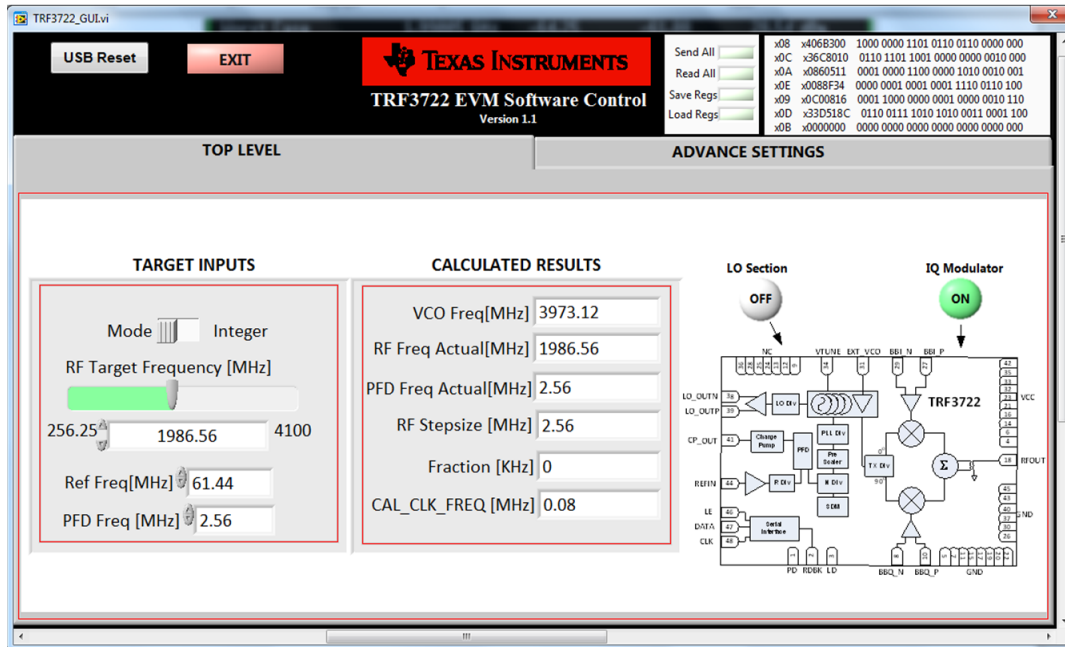
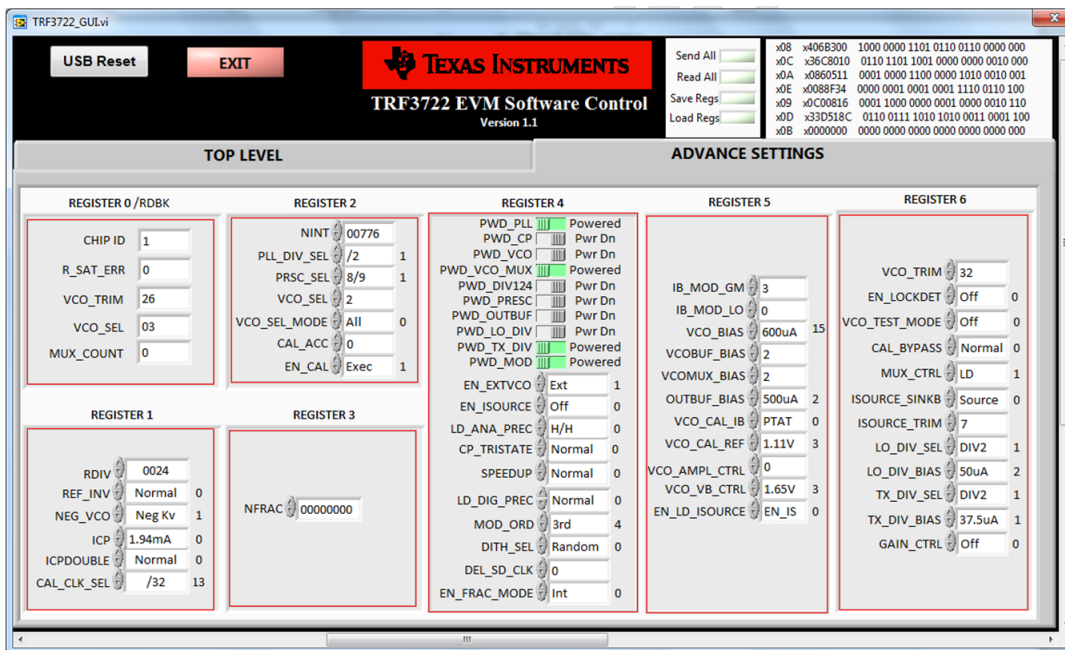

Figure 10. TRF3722 GUI, Ext VCO Configuration (a)
Figure 11. TRF3722 GUI, Ext VCO Configuration (b)
1. Use the GUI settings as shown in Figure 10 and Figure 11.
5. Measure the TRF3722 output OIP3. The OIP3 at LO 1986.56 MHz should be around 28.5 dBm as shown in Figure 10 and Figure 11.